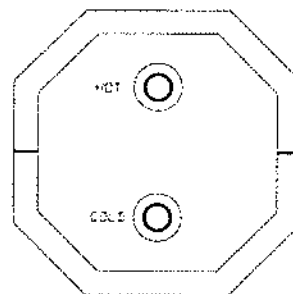

Figure 4
A. Water connections are made at the rear of the water heater. Refer to Figure 4. Connect the hot and cold water lines to the 1/2" female pipe fitting provided on rear of tank. These fittings are marked "HOT" and "COLD". NOTE: Inside each fitting is a plastic fill tube. Its purpose is to enhance water circulation. DO NOT REMOVE PLASTIC FILL TUBE.